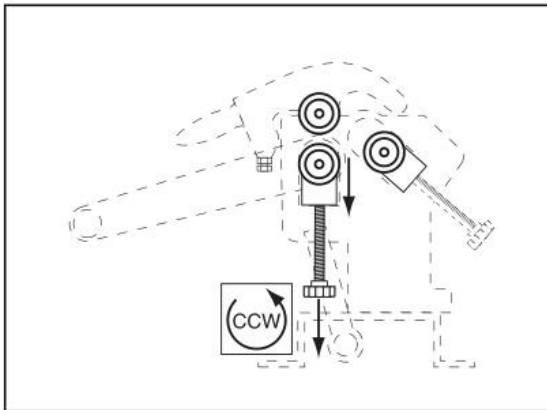

Figure 8
1. Turn the thickness adjust knob to lower the bottom roller to approximately 1/4" below the top roller. Use calipers or a spacer to set the distance between the rollers evenly at each end (Figure 8)